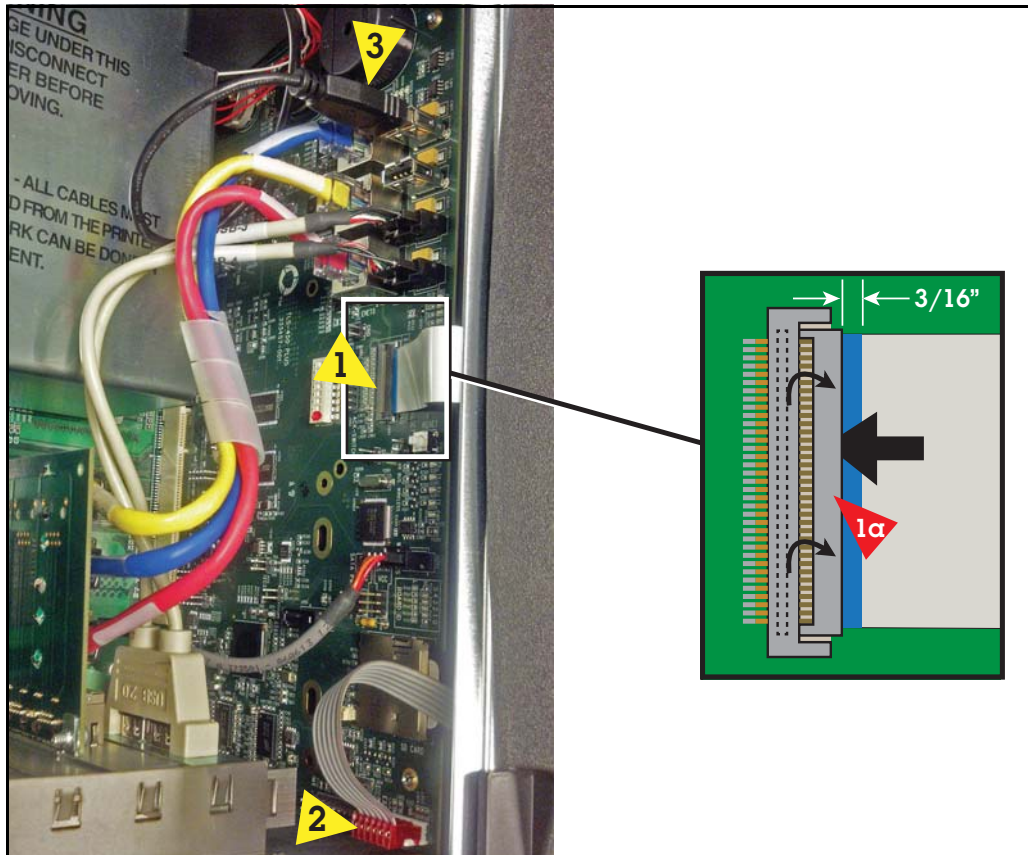

Figure 23. Connect Data Display And LED Backlight Cables To CPU Board
3. Connect the Display door Display Data cable (pointer 1) and the LED Backlight cable (pointer 2) to their CPU board connectors (see Figure 23). If necessary rotate the Display Data cable's locking flap (1a in Figure 23) up from the CPU connector and insert end of the Display Data ribbon cable fully into the connector then push down on the flap (1a) until it rests against the connector. Verify the Display Data ribbon cable is securely seated in the connector and that the flap is down against the connector as shown in the enlarged section. If inserted fully, the blue end of the cable will be no more than 3/16" (4.8mm) out of the connector as shown.